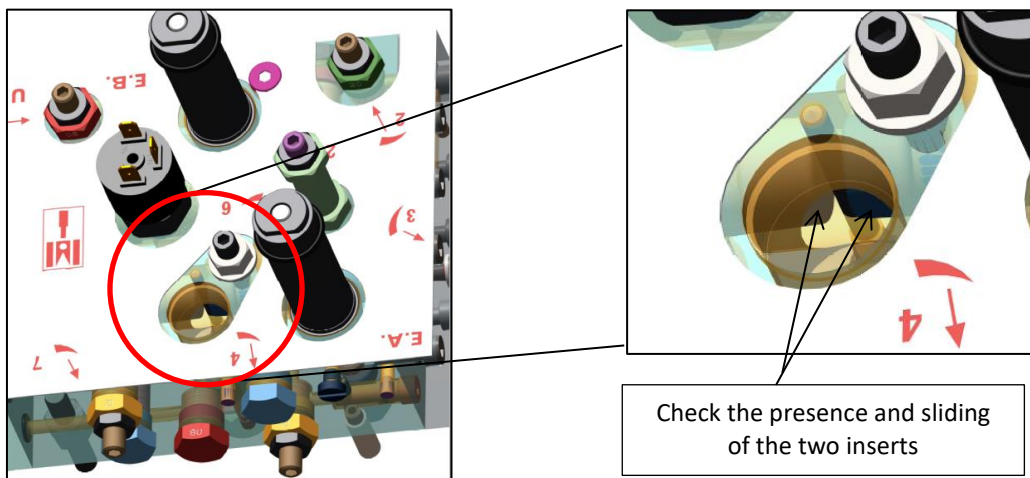

Fig. 2
- 4- Check if the piston of screw 8 is open. Close the gate valve, turn off the tension, relieve the pressure, remove plug T with a setscrew wrench 24 (Fig.2), remove spring and slider. Check the presence of both sliders. Verify the sliders sliding with a screwdriver: if one of the two piston is stuck, contact the assistance; otherwise go to next step.
- 5- Check if the piston of screw 8 is open. Close the gate valve, turn off the tension, relieve the pressure, remove plug T with a setscrew wrench 24 (Fig.2), remove spring and slider. Check the presence of both sliders. Verify the sliders sliding with a screwdriver: if one of the two piston is stuck, contact the assistance.